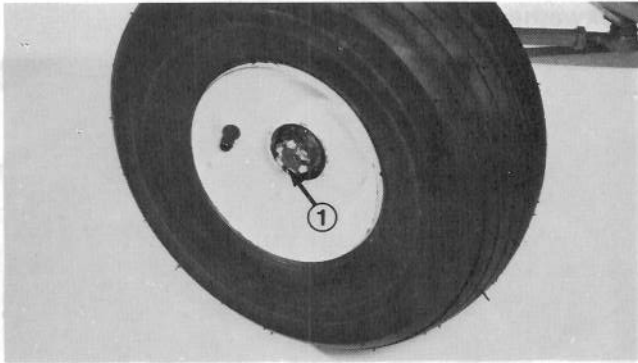

Figure 36
3. Rotate the wheel by hand and tighten the slotted nut (Fig. 36) until the bearing binds slightly. Then, loosen nut until the nearest slot and hole in spindle line up. Reinstall the cotter pin to retain the slotted nut in place.